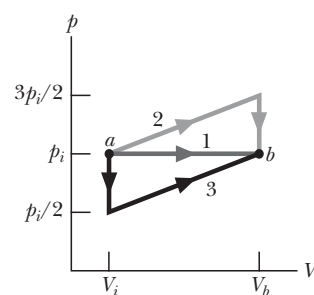

Figure 18-57 Problem 81.
**81 SSM** A sample of gas undergoes a transition from an initial state  $a$  to a final state  $b$  by three different paths (processes), as shown in the  $p$ - $V$  diagram in Fig. 18-57, where  $V_b = 5.00V_i$ . The energy transferred to the gas as heat in process 1 is  $10p_iV_i$ . In terms of  $p_iV_i$ , what are (a) the energy transferred to the gas as heat in process 2 and (b) the change in internal energy that the gas undergoes in process 3?